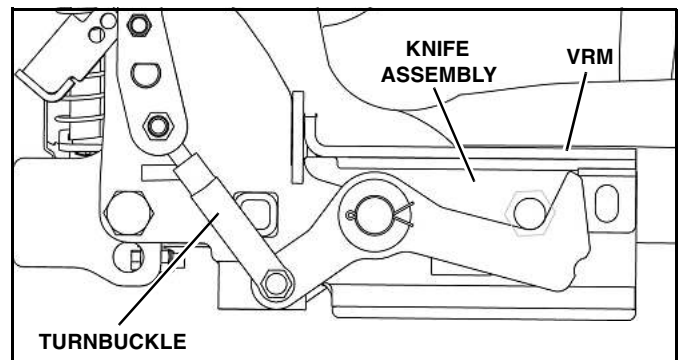
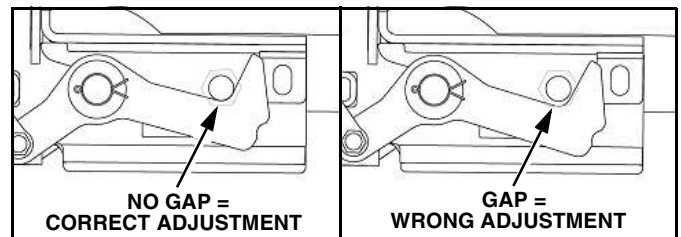

Figure 1-28
Figure 1-29
4. Drive truck in to the plow slowly, and use Down Pressure™ as required to horizontally align the plow knife assembly with Vehicle Receiver Member (VRM). (See Figure 1-28).
5. Once mounted, raise and lock the engagement handle. (See Figure 1-28).
NOTE: Turnbuckles are set to an approximate length from factory. Further adjustment may be needed after installation. Over extending the turnbuckle could cause the handle to become difficult to rotate completely. Periodically the turnbuckle will need to be adjusted due to wear and tear of the VRM. (See Figure 1-28 and Figure 1-29).